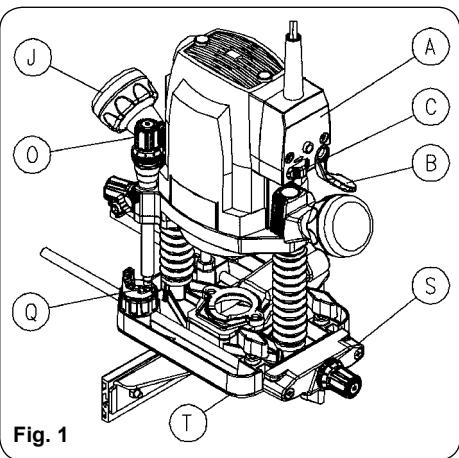
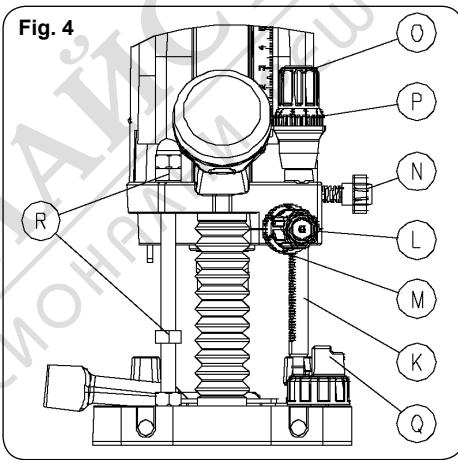

Fig. 1
Fig. 4
- Always guide the router with both hands using the two knobs J (Fig. 1), with stop lever B (Fig. 1) within easy reach.
Cut-out box A (Fig. 1) is equipped with lever B (Fig. 1), which can be pressed with a finger. This enables the user to start it up or stop it with no need to move his hand from knob. To do this, activate the switch's lateral stop C (Fig. 1) and, without releasing it, push forward lever B. Stop C prevents the machine from starting up accidentally.
The base can be locked in any position using knob J (Fig. 1). When knob is loosened, the base will automatically return to its highest position due to the action of the springs incorporated in the columns.
To unlock the depth rod K (Fig. 4) press down firmly on adjustment knob L (Fig. 4) and turn it to raise or lower the depth rod, if a greater or lesser cutting depth is required. The gauged adjustment indicator M (Fig. 4) can be moved separately from the knob, so that it may be set to zero from any position using the reference mark. When turning the knob after adjusting the indicator, both elements will turn together, thereby indicating the degree to which the rod has been moved. A full turn of the knob moves the rod by 34 mm, with a maximum
To hold the depth rod in the required position, release the pressure from the adjustment knob. Next, to ensure that the knob is firmly held in place, it should be locked using fastening knob N (Fig. 4). PRECISION ADJUSTMENT. If you wish to make precision adjustments to the previously set depth, simply turn adjustment knob O (Fig. 4). A full turn of the knob moves the rod by 1 mm, with a maximum distance of 5 mm. Each division in the gauged fine-adjustment indicator P (Fig. 4) represents a movement of 0.1 mm.
**MAKING DEEP CUTS.** To perform cuts that are too deep to carry out with a single cut, we recommend making several successive cuts using the six 3-mm steps in the revolving depth turret Q (Fig. 4).
Lower the machine until the cutting bit is level with the surface on which the router is resting. Use locking knob J (Fig. 1) to hold the machine in this position. Loosen fastening knob N (Fig. 4), then press down and turn adjustment knob L (Fig. 4) until the depth rod presses against the lower step of the revolving depth turret, using fine adjustment if required. In this position, turn depth indicator M (Fig. 4) until position zero matches the reference mark. This will be the starting position indicating the point at which the bit comes into contact with the material. Hold the rod in place with knob N (Fig. 4), release the locking knob and leave the machine in the off position.
Loosen fastening knob N, then press down and turn adjustment knob L, moving the adjustment rod K (Fig. 4) upwards to the required cut depth. Then use knob N once again to turn turret Q (Fig. 4) until the highest step is below rod K (Fig. 4). Make the first cut on the material. Turn the turret Q to the next step and then make another cut, and so on until the required depth is obtained when the bottom step is reached.
To carry out several repetitive jobs in which the same router depth is required, it may be useful to prevent the head being released by accidentally moving the locking knob J (Fig. 1). This may be done by inserting two M8 nuts R (Fig. 4) in the threaded shaft, one above and one below the head body. This locks the head at any point along its depth setting.
- Cancel the locked depth and return to the normal conditions of locking by the knob J (Fig. 1) as soon as the task has been completed.